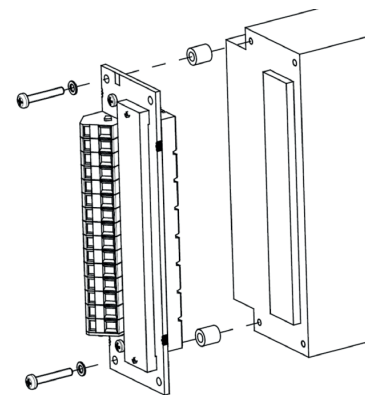

Fig. 26
- Cage clamp adapter HZZ00144-G; see fig. 26.